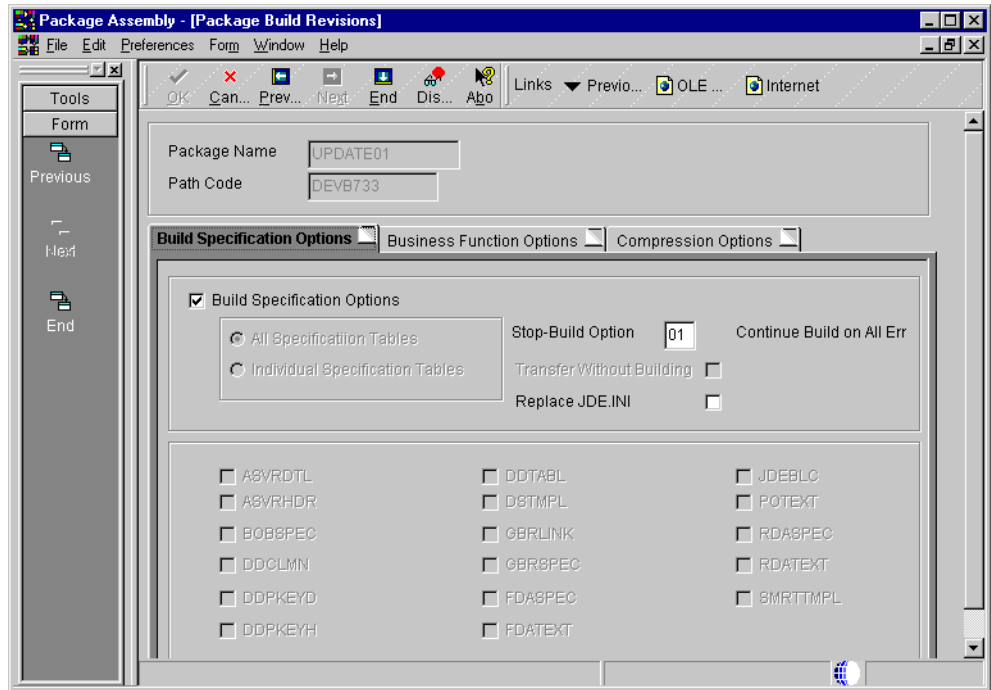

Figure 158. Package Build Revisions form
12. Click **Next**. The Package Build Revisions form appears (Figure 158 on page 360).